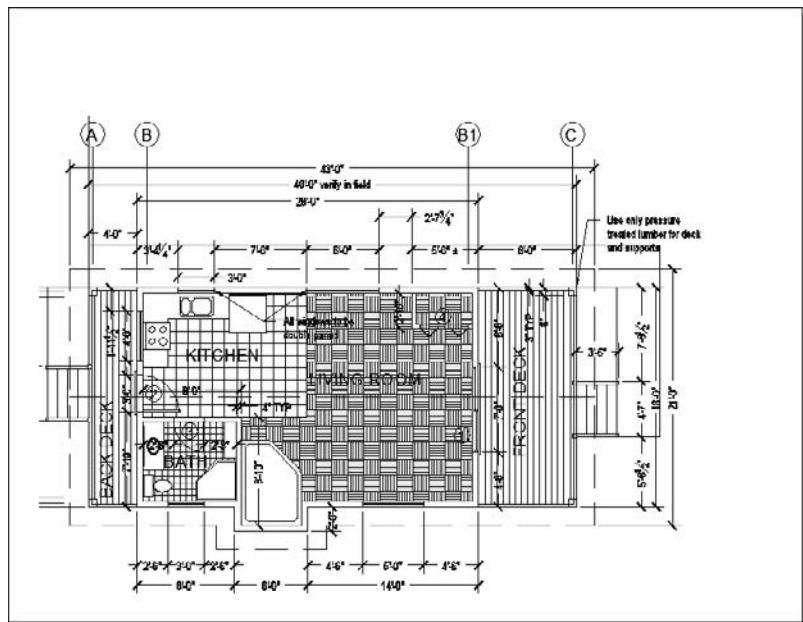

FIGURE 15.5 A preview of the drawing printed to Limits
4. Click the right-facing arrow in the lower-right corner, and make sure Landscape is selected in the Drawing Orientation group. Then click the Preview button in the lower-left corner (see Figure 15.5). This print won't work here because the limits don't cover the entire drawing, and the title block has already been moved into paper space. Printing to Limits can be a good tool for setting up a print, but you'll usually reset the limits from their original defining coordinates to new ones for the actual print.